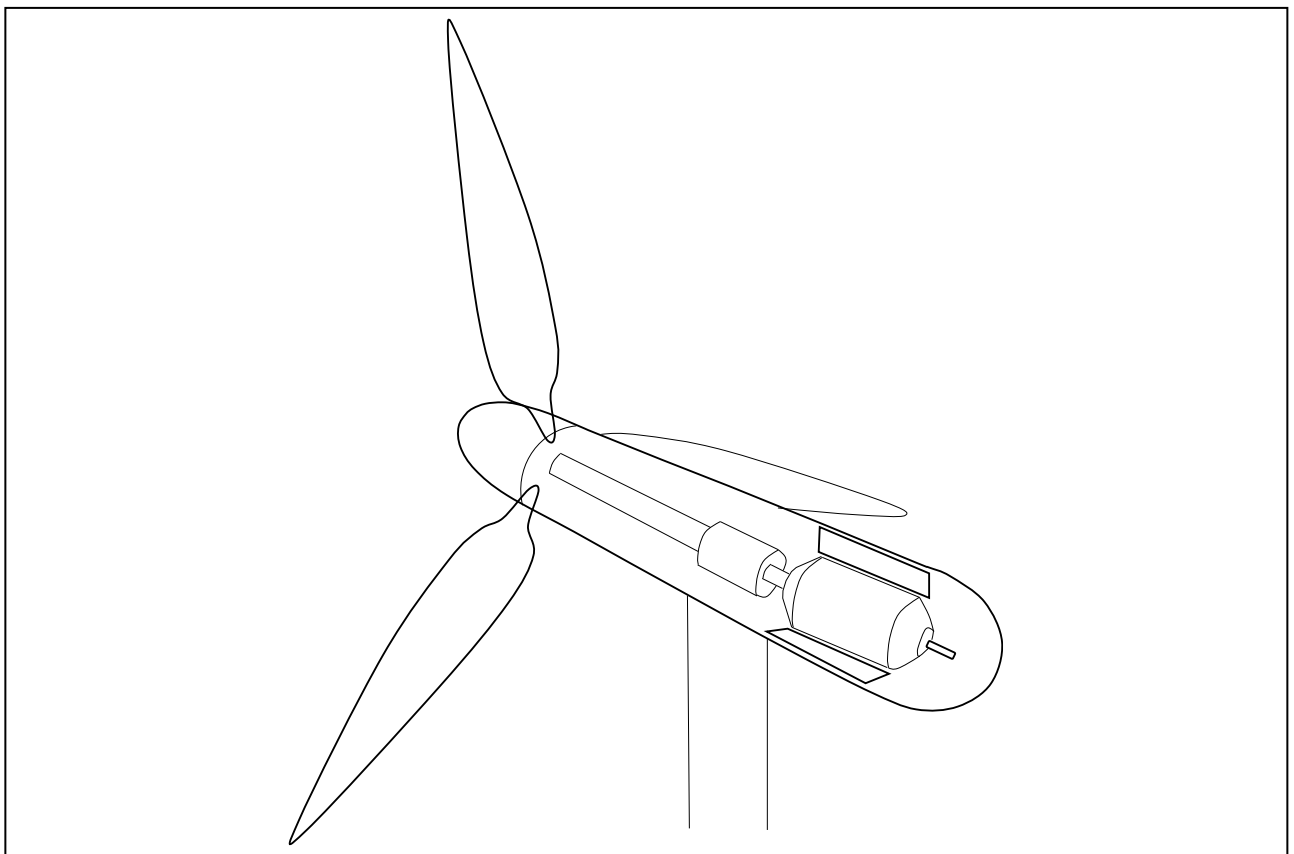

Figure 1
1. There are other, more intricate, parts within a wind turbine. Read the following passage of text and then label Figure 1. Can you finish the design of the wind turbine?
2. Using some of the text boxes on page 1, label and annotate any issues that you think might occur over the lifetime of an offshore wind turbine onto Figure 1.